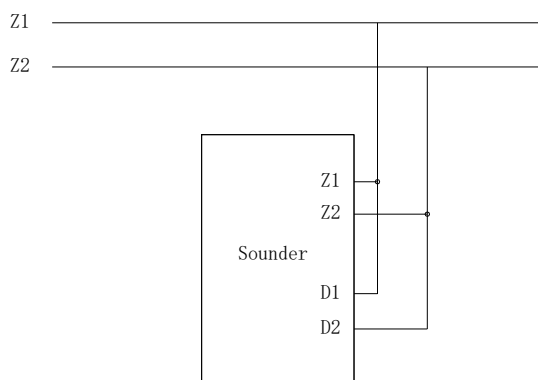

Fig. 5
- Fig.5 shows that the sounder is loop-powered.